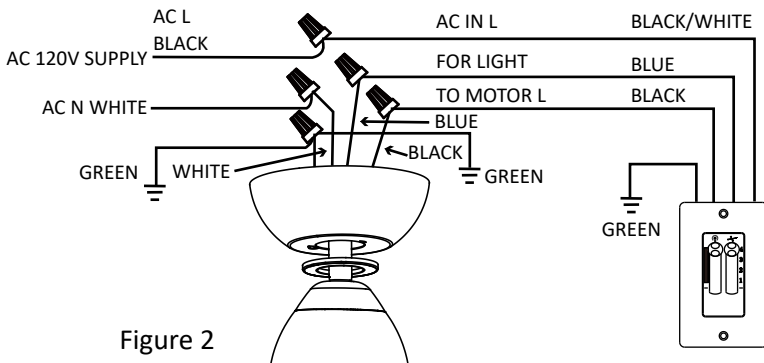

Figure 2
3. Make wire connections and secure with wire nuts supplied, refer to Figure 2.